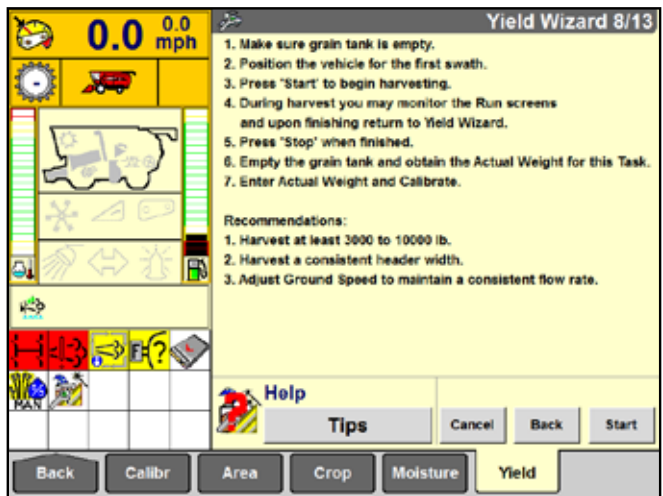

Figure 19.2
- Press “Start” and follow on-screen instructions (see figure 19.2)